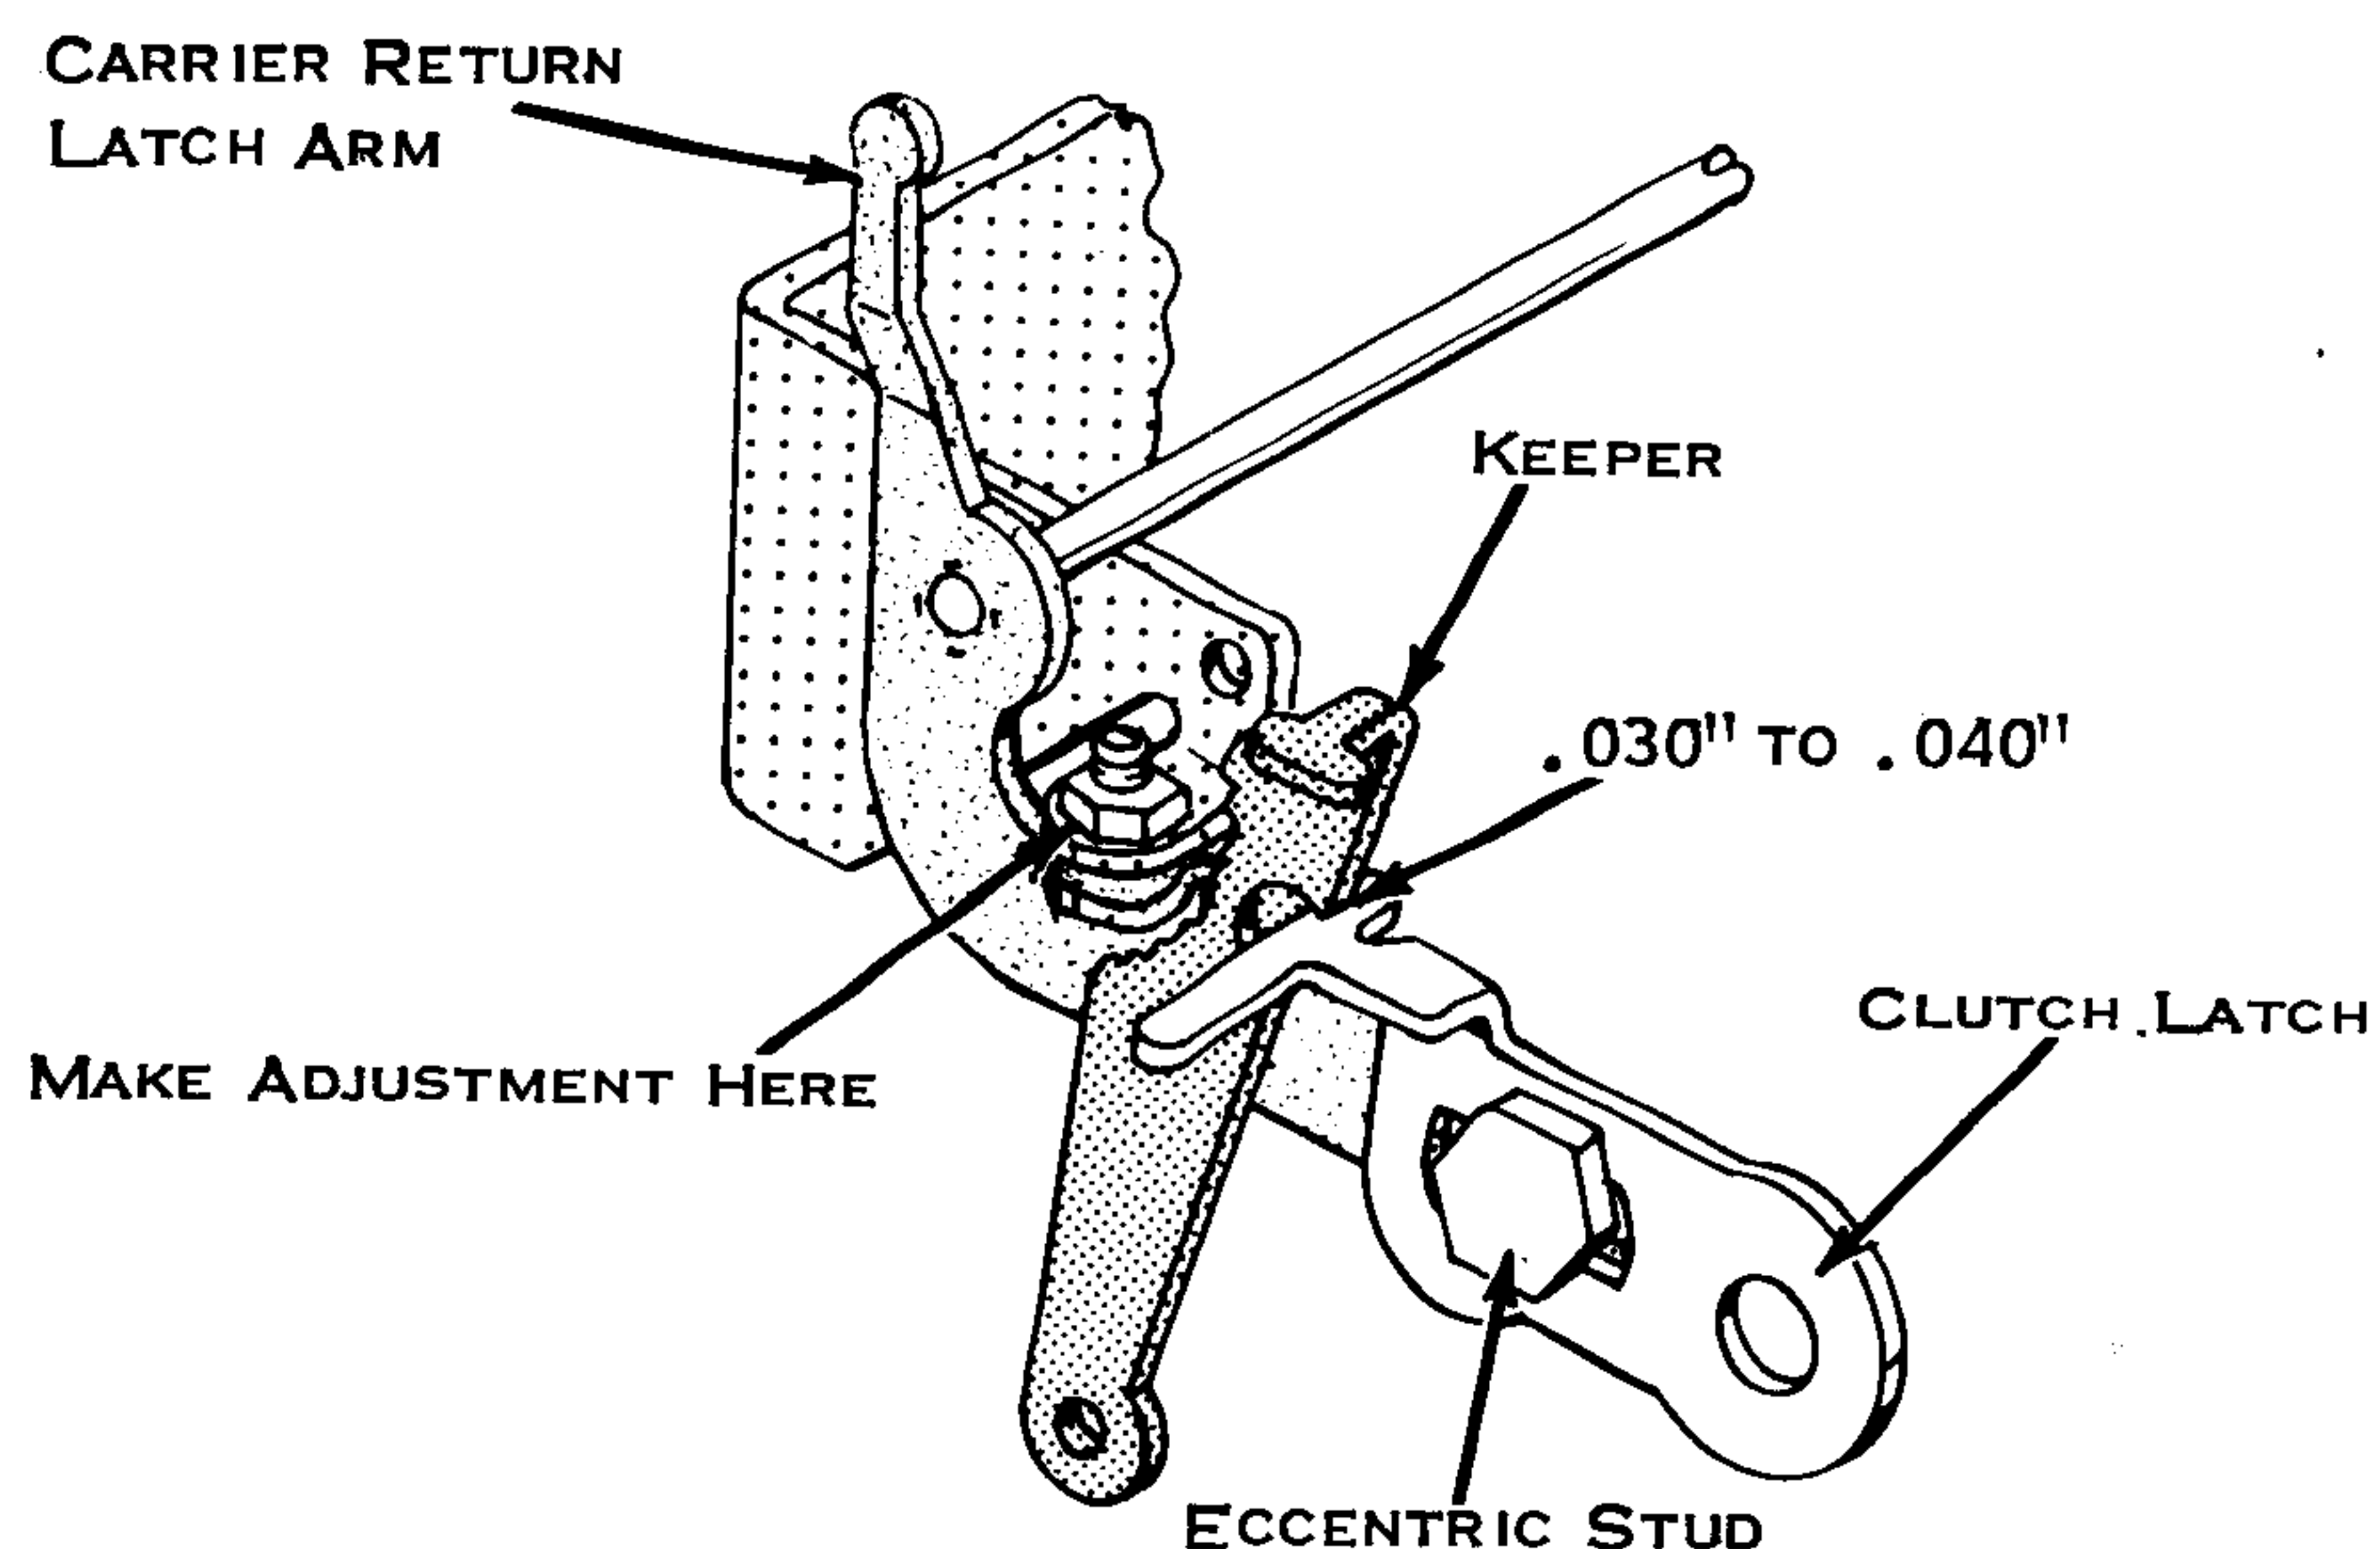
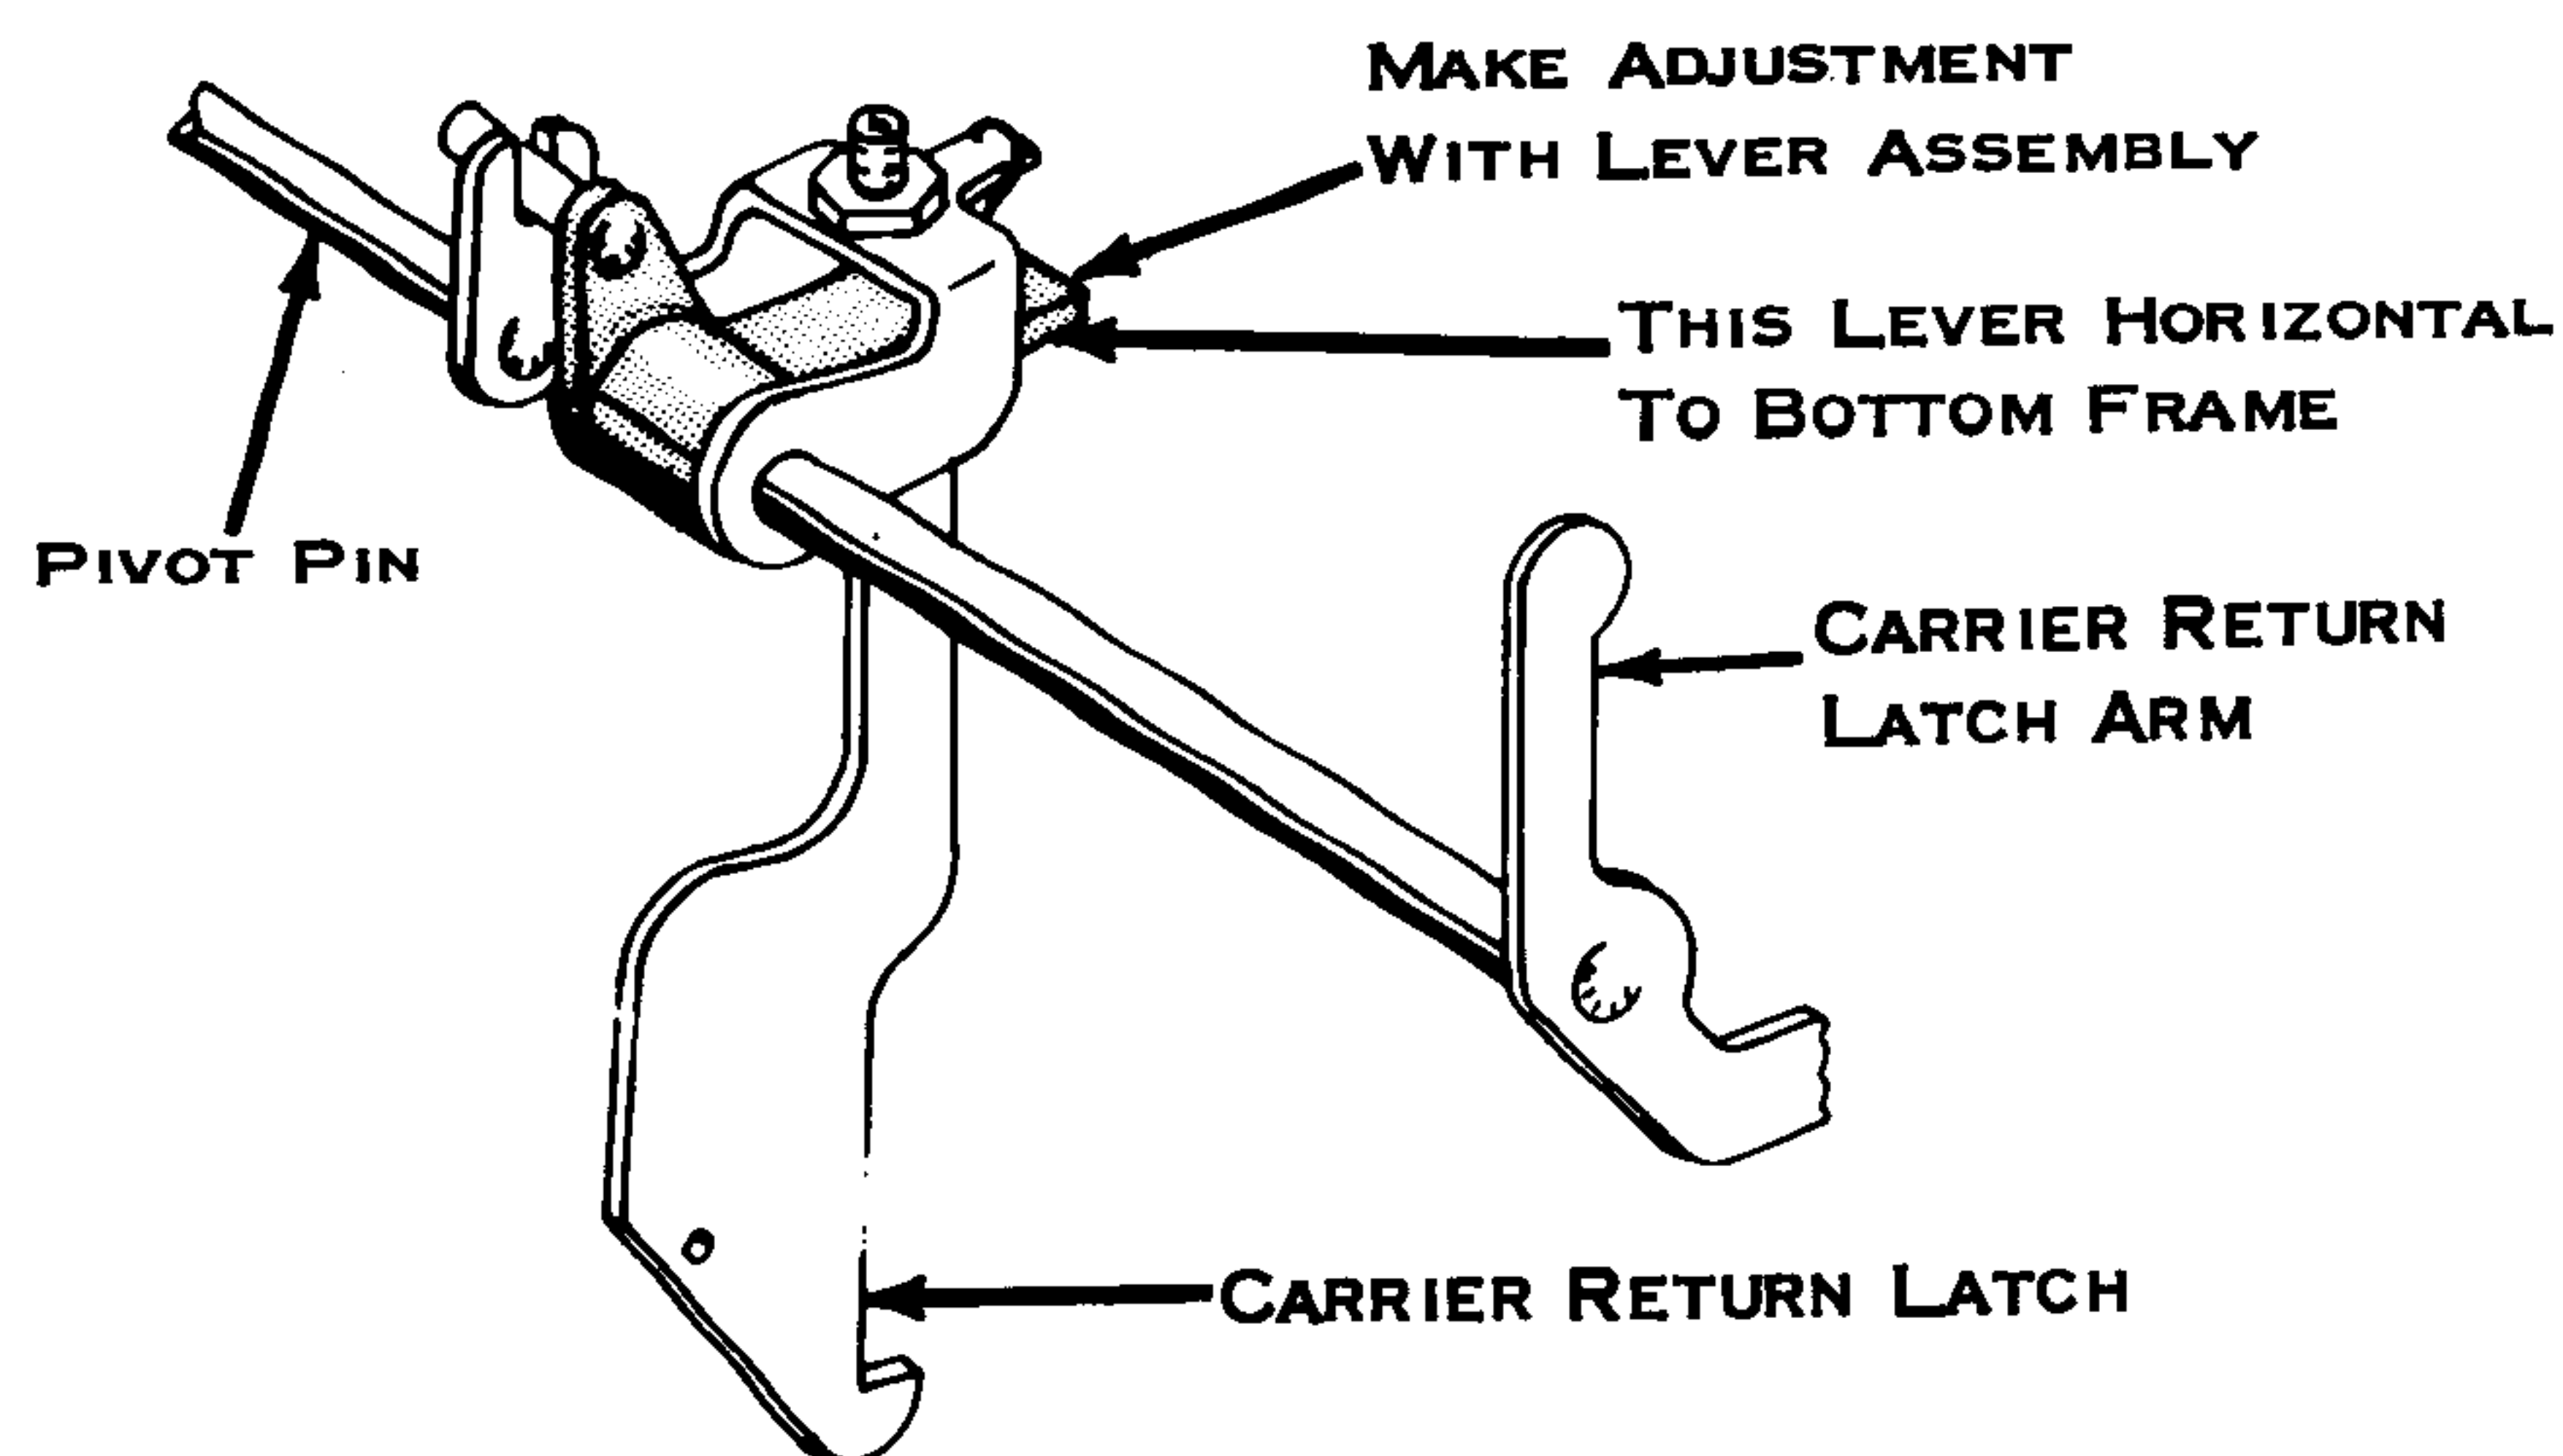

Figure 178. Clutch Latch Overthrow, 11" Machine
Figure 180. Lever Assembly, 15" Machine
2. Clutch Latch Overthrow, 11" Machine (Fig. 178) - The adjusting screw in the carrier return latch arm should be adjusted so that there is .030" to .040" clearance between the working surface of the keeper and the clutch latch with the cam follower on the high point of the cam.
Lever Assembly, 15" Machines Only (Fig. 180) - Position on carrier return latch arm so that the flat bottom portion of the lever is horizontal. The lever assembly adjusting screw should then be adjusted for .030" to .040" latch to keeper overthrow (Ref. Fig. 178).